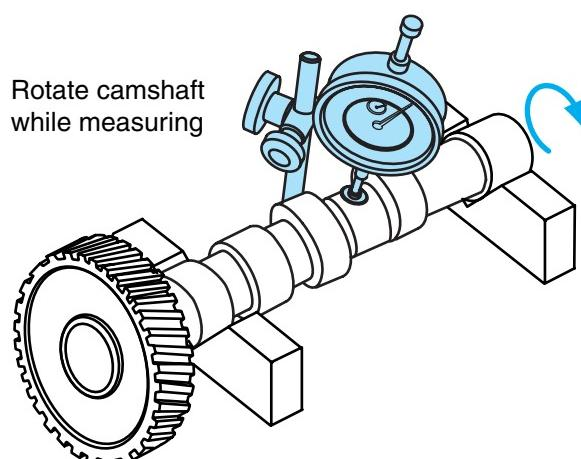

Figure 5-5 Checking a cam-shaft on V-blocks.
4. Place the cam-shaft in V-blocks (**Figure 5-5**) and check for a bent cam-shaft using a dial indicator. It is unusual for cam-shafts to bend in normal service. Bending a cam-shaft is usually caused by the failure of another engine component.